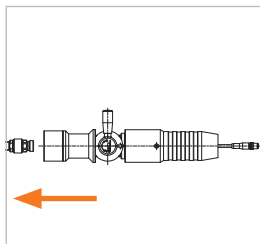

Figure 17
- ▶ Carefully pull the WEH® Service receptacle straight out of the fueling nozzle (Figure 17).